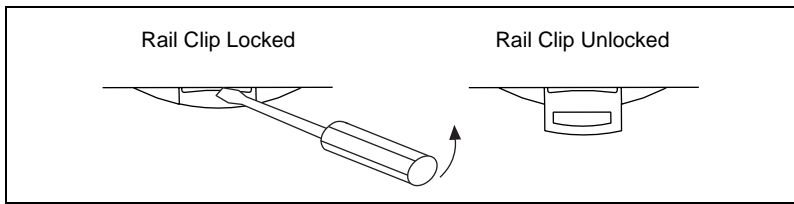

Figure 1. DIN Rail Clip
1. Use the screwdriver blade to open the DIN rail clip on the FP-1000 module to the unlocked position, as shown in Figure 1.